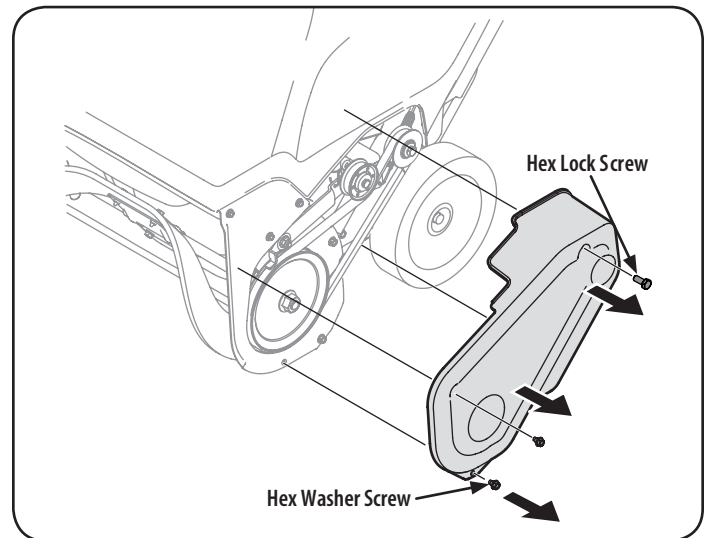

Figure 3
4. Remove the belt cover by removing the two hex washer screws and one hex lock screw that secure it to the frame. See Figure 3.